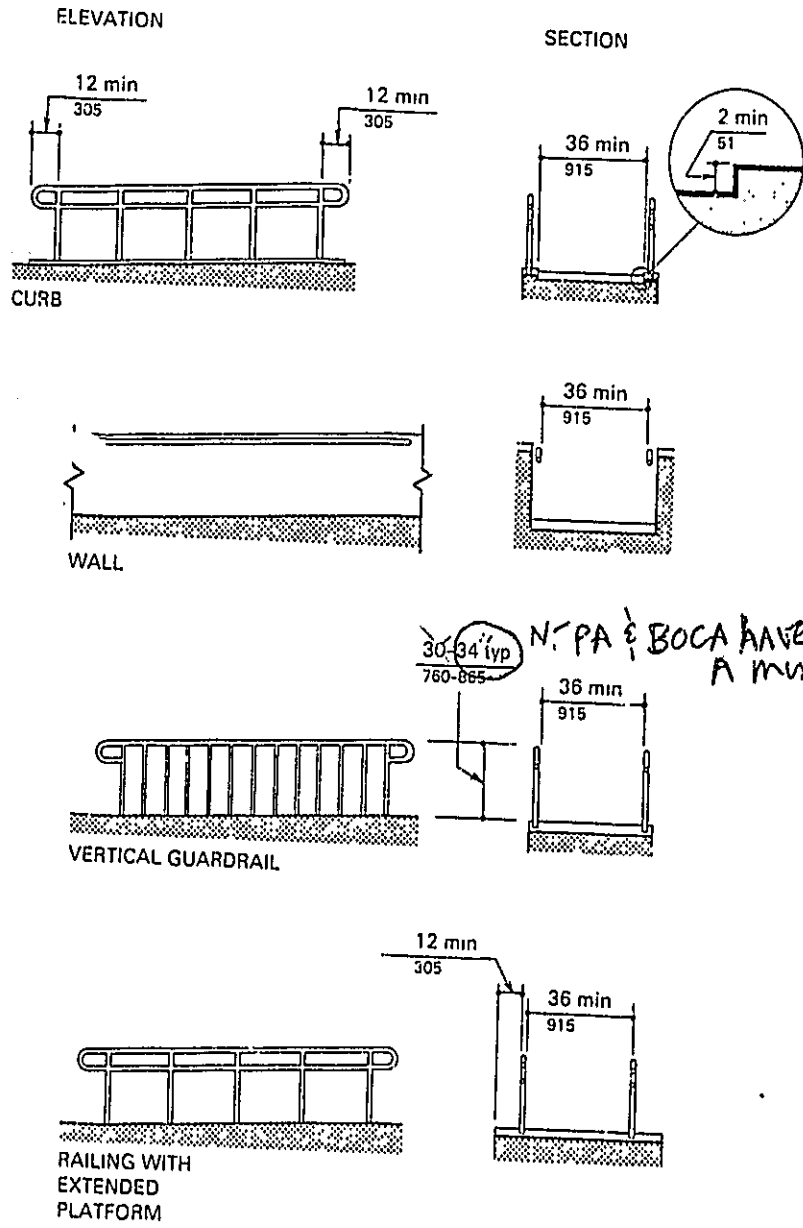

Fig. 17
4.8.3 Clear Width. The minimum clear width of a ramp shall be 36 in (915 mm) (see Fig. 17).
4.8.7 Edge Protection. Ramps and landings with drop-offs shall have curbs, walls, railings, or projecting surfaces that prevent people from slipping off the ramp. Curbs shall be a minimum of 2 in (51 mm) high (see Fig. 17).